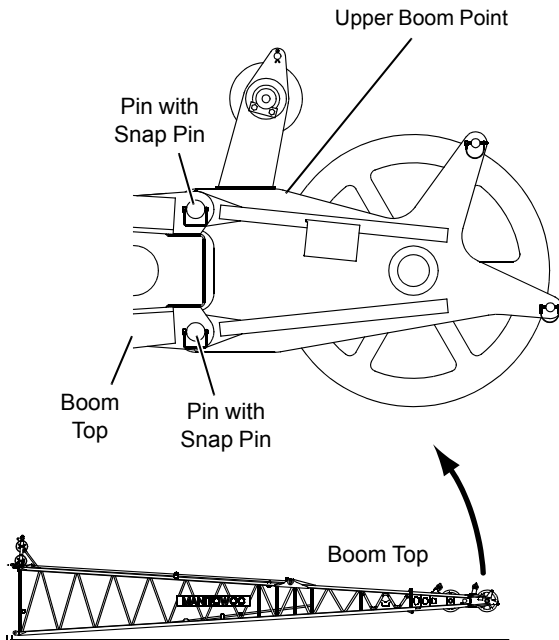

FIGURE 4-39
See Figure 4-39 for the following procedure.
6. Remove upper boom point (Figure 4-39).